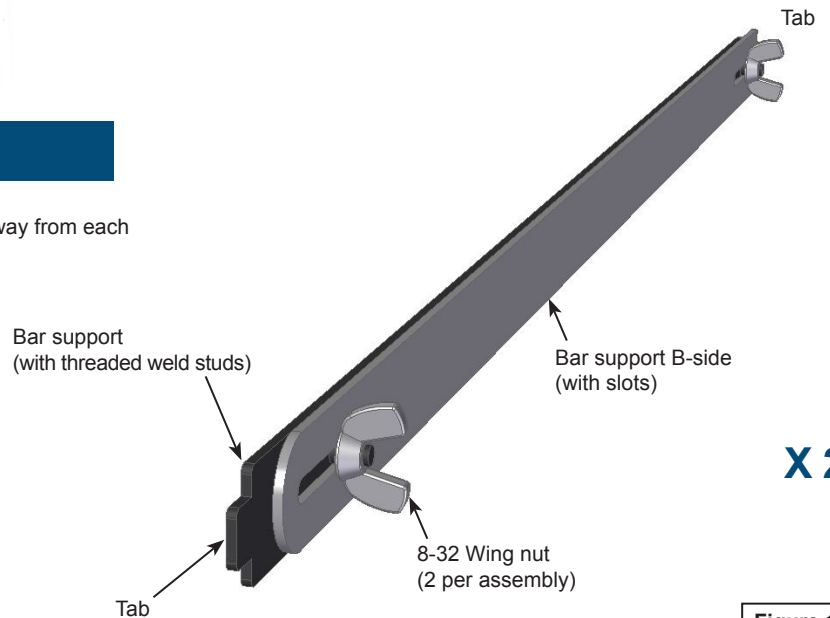

Figure 1
1. The bars should be assembled with the tabs facing away from each other as shown in **Figure 1**.
2. Loosen the (2) wing nuts slightly.